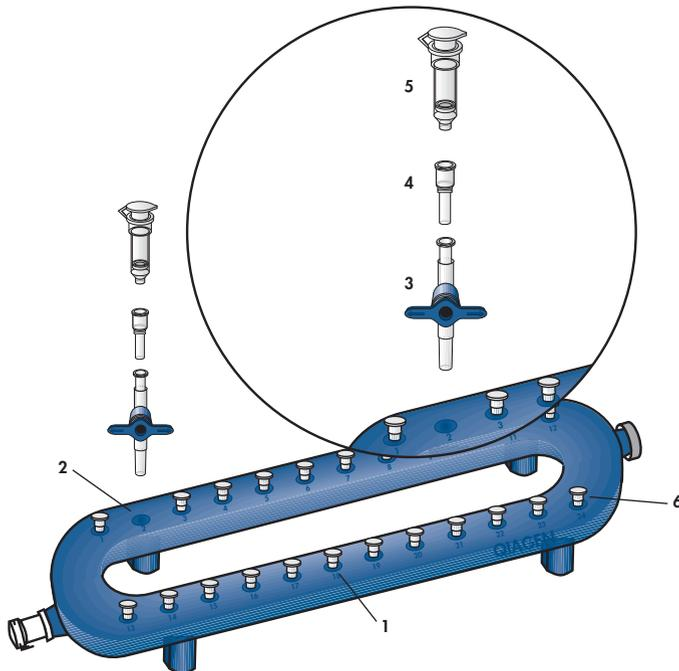

Figure 3. Setting up the QIAvac 24 Plus with QIAamp Mini columns using VacValves and VacConnectors.
2. **Insert a VacValve into each luer slot of the QIAvac 24 Plus that is to be used (see Figure 3). Close unused luer slots with luer plugs or close the inserted VacValve.**
3. **Insert a VacConnector into each VacValve (see Figure 3).**
4. **Place the QIAamp Mini columns into the VacConnectors on the manifold (see Figure 3).**